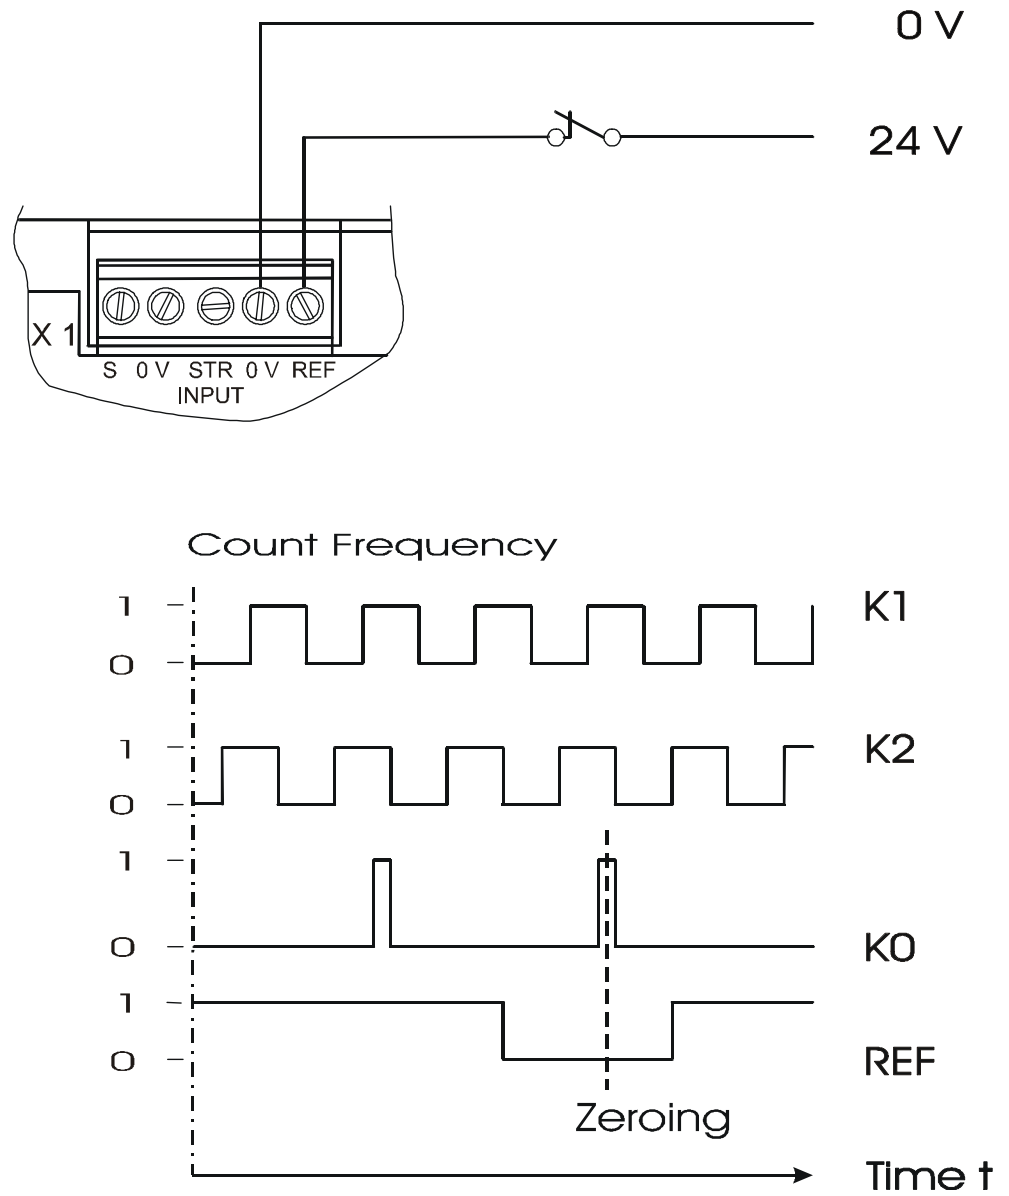

Fig. 50: Pulse sequence of counting signals
- For initialisation through hardware the input of terminal REF is to be set to zero (REF = 0) Through its 15-pin SUB-D connector, the incremental encoder supplies  $K0 = 1$  (refer to fig. 50: "Pulse sequence of counting signals", page 206).